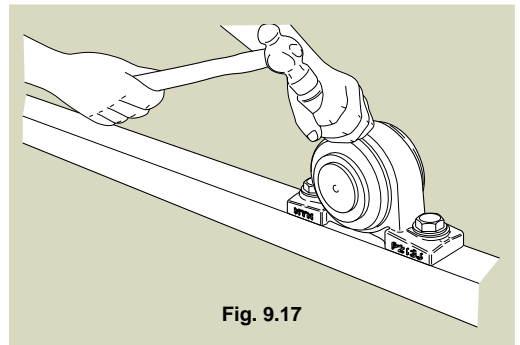

Fig. 9.17
- 6) Fit the cover into the recess of the housing using the same procedure as detailed in Step 4) (Fig. 9.17).